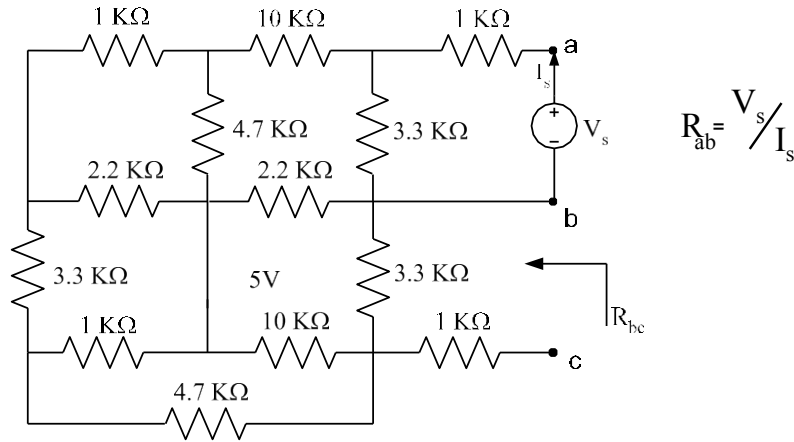

Figure 3.3: Resistance measurement using V_s/I_s method
- Now to measure the resistance R_{ab} , insert a voltage source V_s (take $V_s = 5V$) between terminals a and b as shown in Figure 3.3.